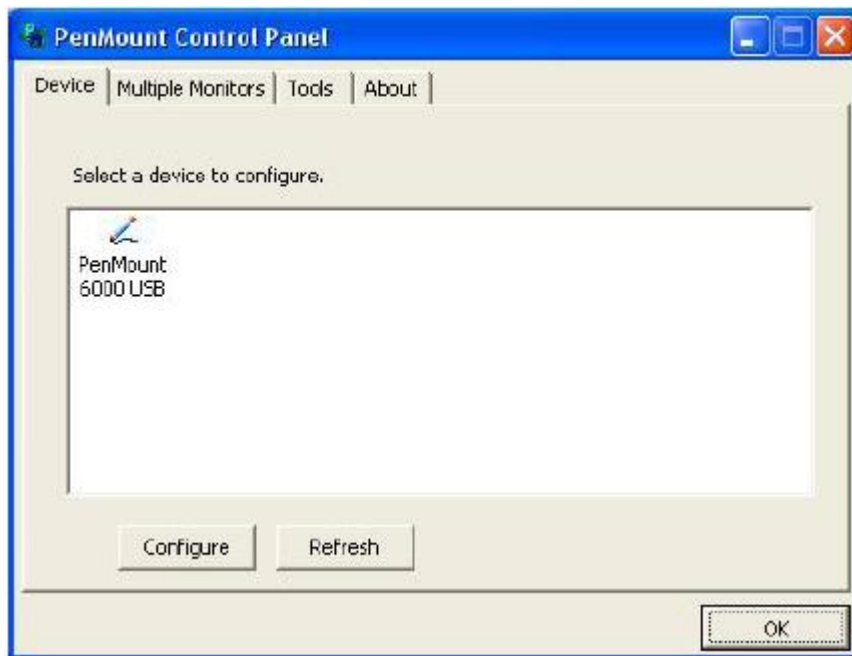

Figure 5-9: Configuration Screen
Step 6: The configuration screen in **Figure 5-9** appears.
Step 7: Double click the PenMount 6000 icon as shown in **Figure 5-9**.